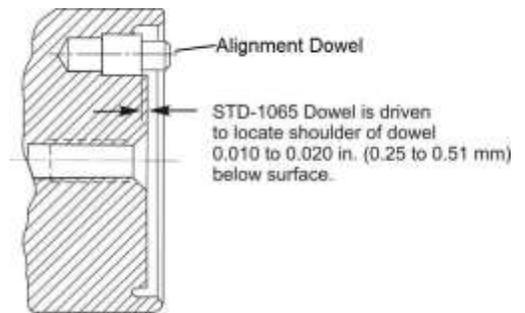

Figure 42
- (1) Use a center punch to mark the center of the exposed surface of the installed alignment dowel (Figure 42).
- (2) Mark a 1/8 in. drill bit to limit the depth of the drilled hole to 0.6 in. (15.14 mm).
- (3) Drill a 1/8 in. (3.18 mm) diameter hole through the center of the installed alignment dowel.
- (4) Fill the new drilled hole with oil.
- (5) Put a piece of 1/8 in. diameter drill rod in the drilled hole.
- (6) Use a hammer or mallet to hit the end of the drill rod.
- (7) Hydraulic pressure from the oil will push out the alignment dowel from the crankshaft.
- (8) Remove and discard the alignment dowel.
- (9) Examine the bottom of the alignment dowel hole to make sure that the drill bit did not make contact with the bottom of the hole. If the drill bit made contact with the bottom of the hole, send the crankshaft to the factory for evaluation.
- (10) Press the replacement alignment dowel into the alignment dowel hole to the required driven height. Refer to Figure 42 for the alignment dowel part number and the correct driven height.